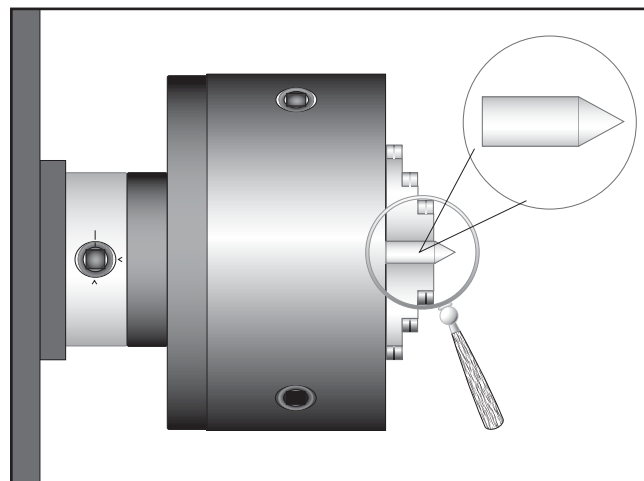

Figure 59. Turning a dead center for aligning the tailstock.
3. Use the other piece of round stock to make a dead center, and turn it to a 60° point, as illustrated in **Figure 59**.